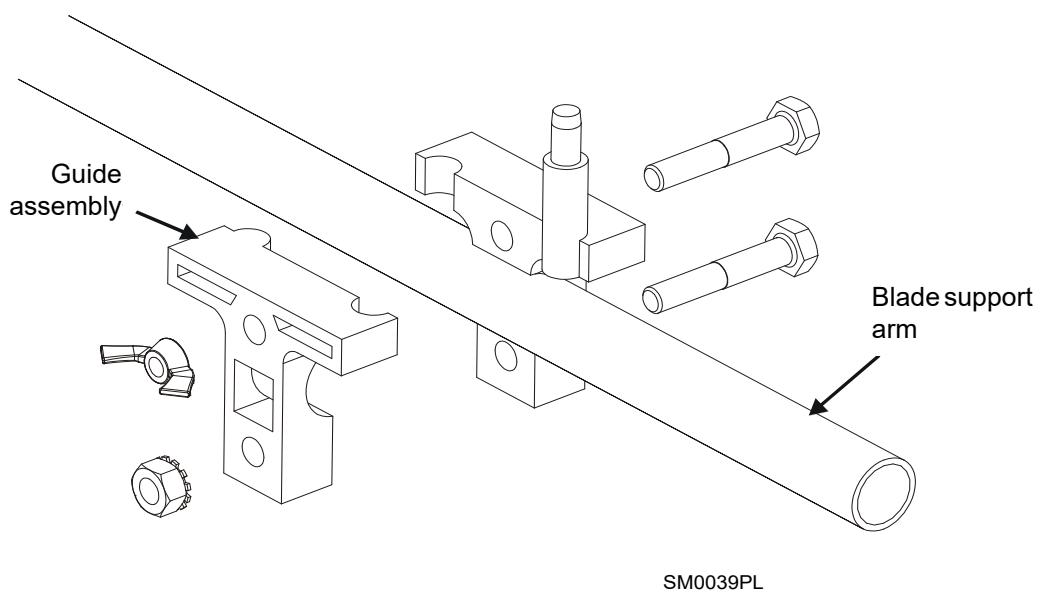

**FIG. 2-1**
**See Figure 2-1.** The main components of the toothsetter are shown below. These parts will be discussed in the following instructions.